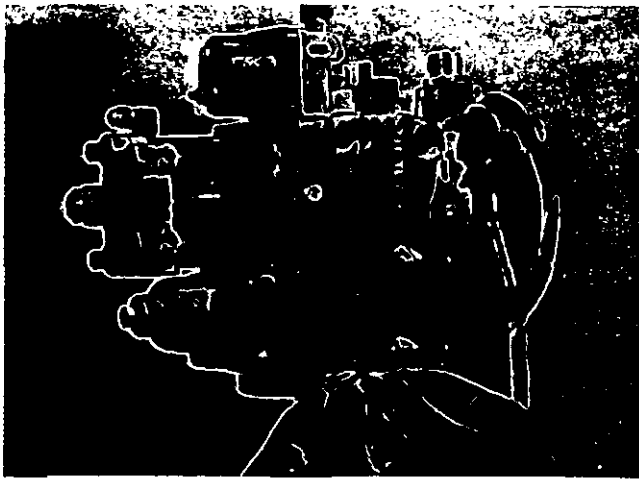

Fig. 17-7, (F5181). Seal the fuel pump.
1. To prevent operator adjustments to the fuel pump after the final adjustments are made, seal the spring pack cover lower capscrews and the rear throttle screw or the throttle cover and the spring pack cover plug, Fig. 17-7.